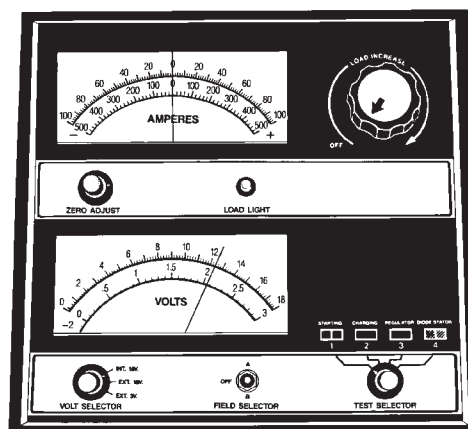

Fig. 5 Testing Open-Circuit Voltage - Typical
(1) Before measuring the open-circuit voltage, the surface charge must be removed from the battery. Turn on the head lamps for fifteen seconds, then allow up to five minutes for the battery voltage to stabilize.
(2) Disconnect and isolate both battery cables, negative cable first.
(3) Using a voltmeter connected to the battery posts (refer to the instructions provided with the voltmeter), measure the open-circuit voltage (Fig. 5).